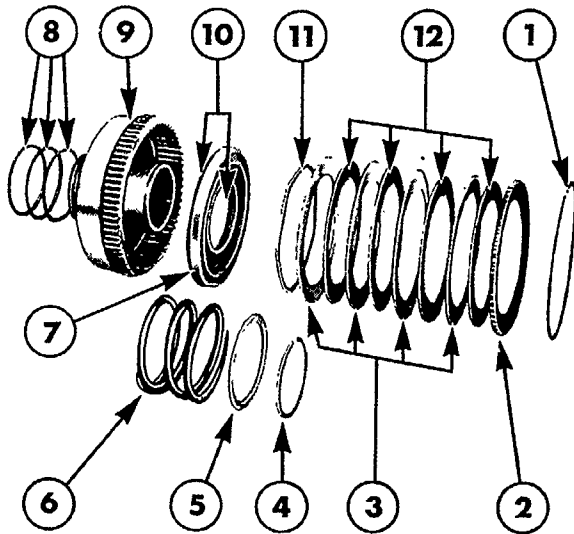

Figure 12
1. Remove the sealing rings, Figure 12, from the rear hub of the direct drive clutch housing.